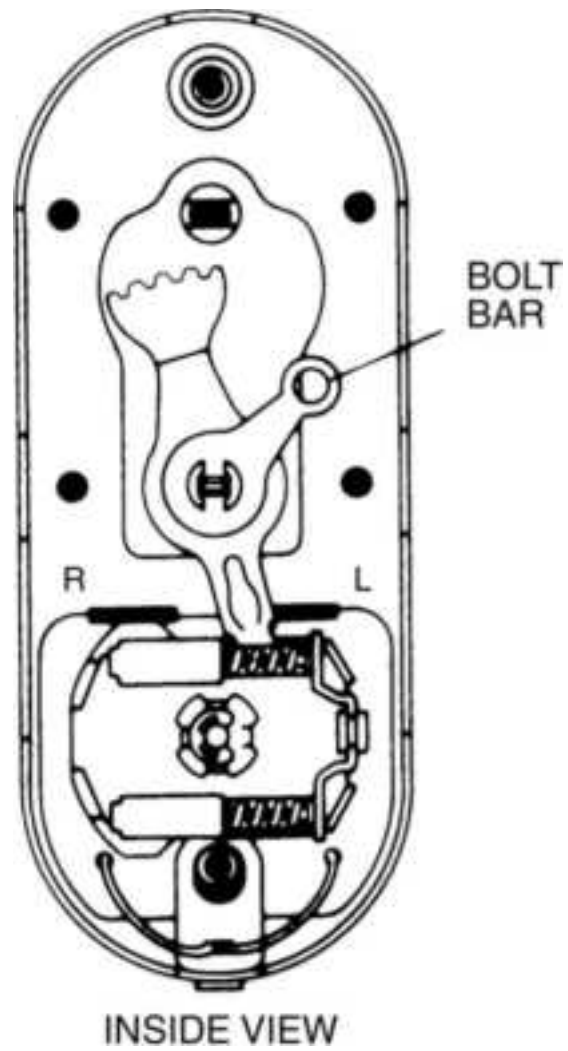

**Figure 13.82** Changing hand, Step 13.
13. Install the bolt bar (Fig. 13.82 ).